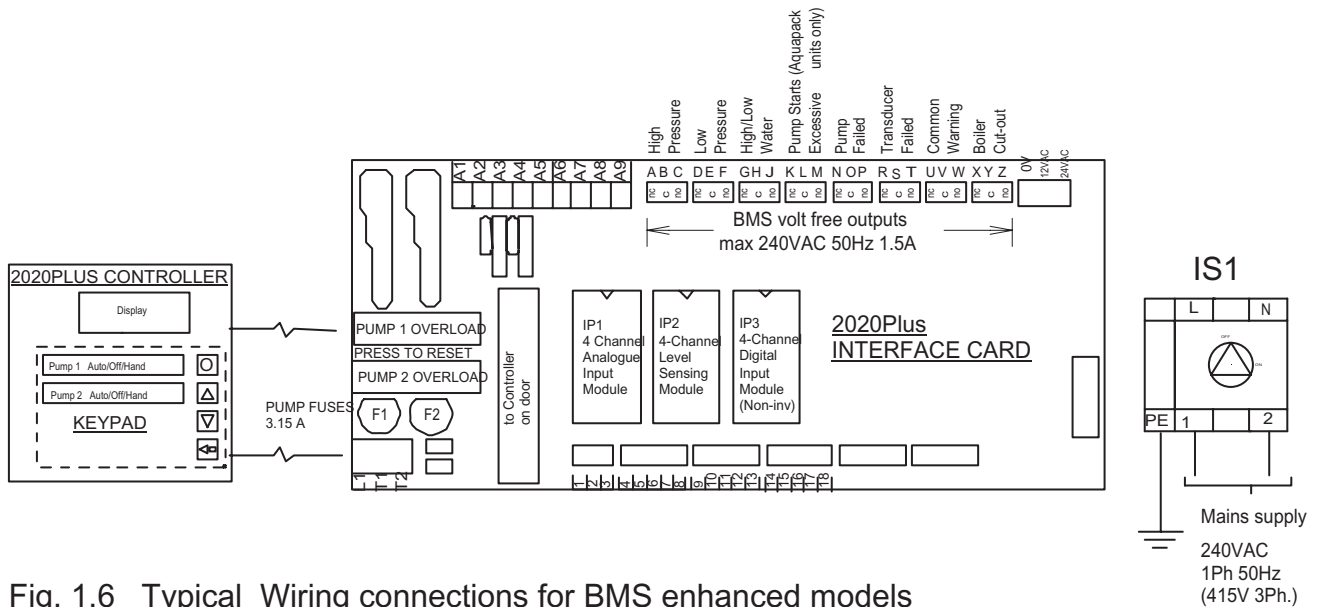

Fig. 1.6 Typical Wiring connections for BMS enhanced models
1.3.6.3 Connect incoming electrical mains supply to identified terminals in panel (see fig. 1.6). Ensure voltages and frequency indicated on the motor nameplates and wiring diagrams correspond with supply mains data and that the supply fuse ratings are correct for the total current rating of the equipment. Note: some units require a 3 Phase supply for larger applications. Refer to wiring diagram supplied with the unit or contact AquaTech-Pressmain.